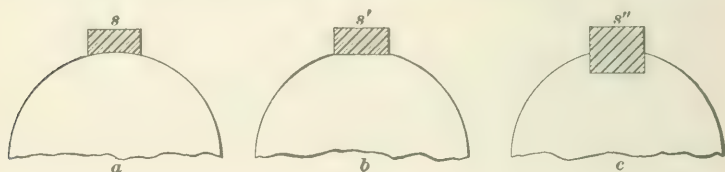

FIG. 40.
87. Keys for fastening pulleys to shafts in order to cause them to rotate together belong usually to one of the three classes shown in Fig. 40. The one shown at *a* is a concave key that is hollowed out to fit the shaft. As it holds the pulley by friction alone, it is only suitable for light work. In case such a key slips, its holding power can be increased a little by hollowing out its concave side to a radius smaller than
the radius of the shaft. The flat key is shown in Fig. 40 at *b*, a flat surface is cut on the shaft, and, consequently, the key is more effective than the concave key, as far as slipping under a rotative strain is concerned. The sunk key shown in Fig. 40 at *c* is the most effective, since it is impossible for the pulley to turn on the shaft without shearing off the key. Keys for fastening pulleys, etc. are usually given a taper of from $\frac{1}{8}$ to $\frac{1}{4}$ inch per foot.